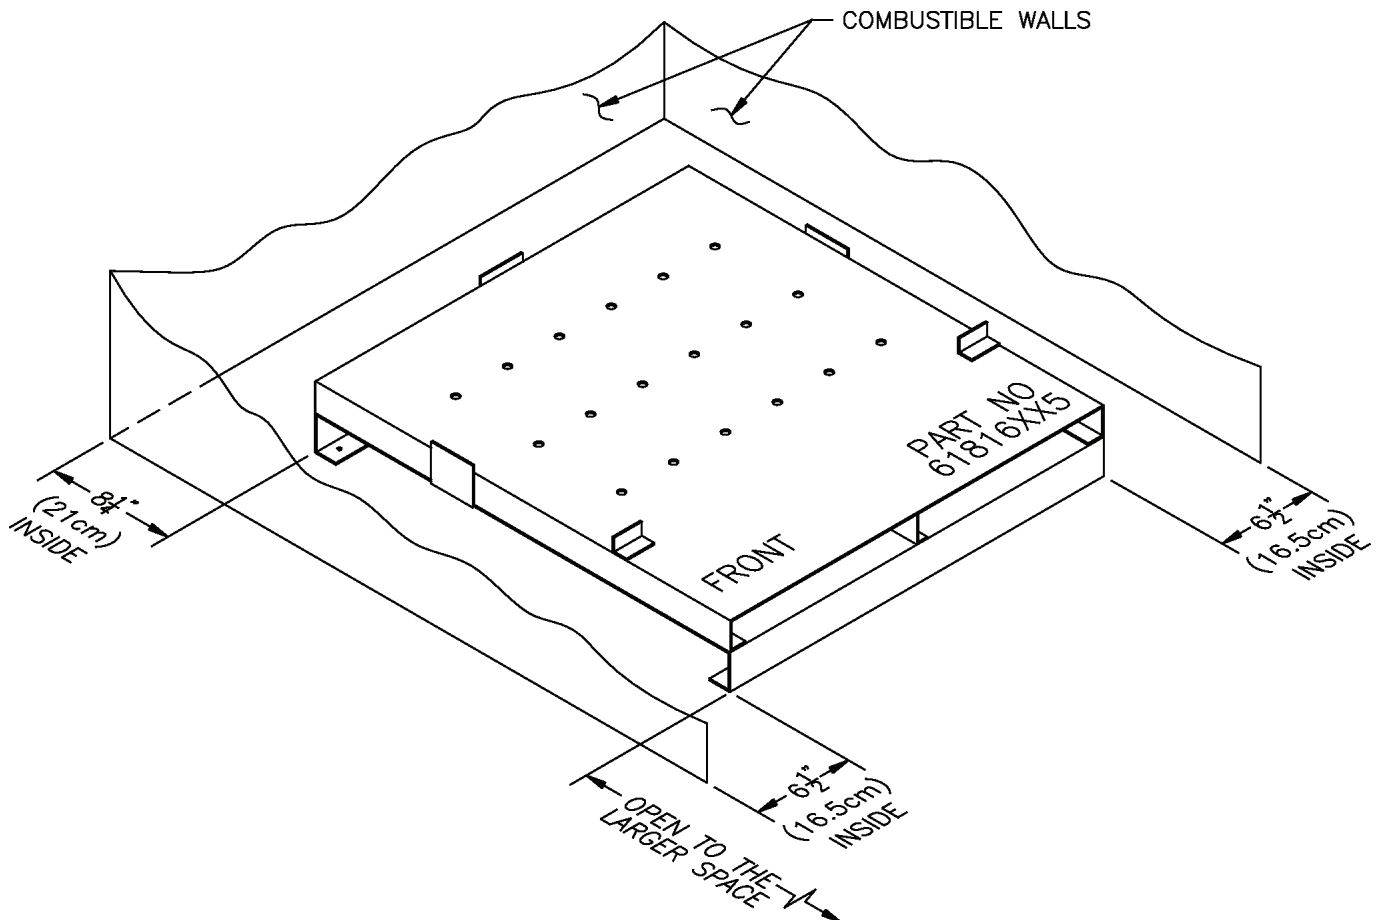

Figure 4: Installation of Special Base for Combustible Flooring
E. Install special base if installation is on combustible flooring. See Figure 4. Floor shield adds $4\frac{3}{4}$ " to boiler height.
- Locate special base with spacing to combustible materials as shown in Figure 4.
- Do not enclose boiler (including special base) on all four sides. Models 16H-340 may be enclosed on three sides (alcove) while maintaining clearances shown in Figure 4.